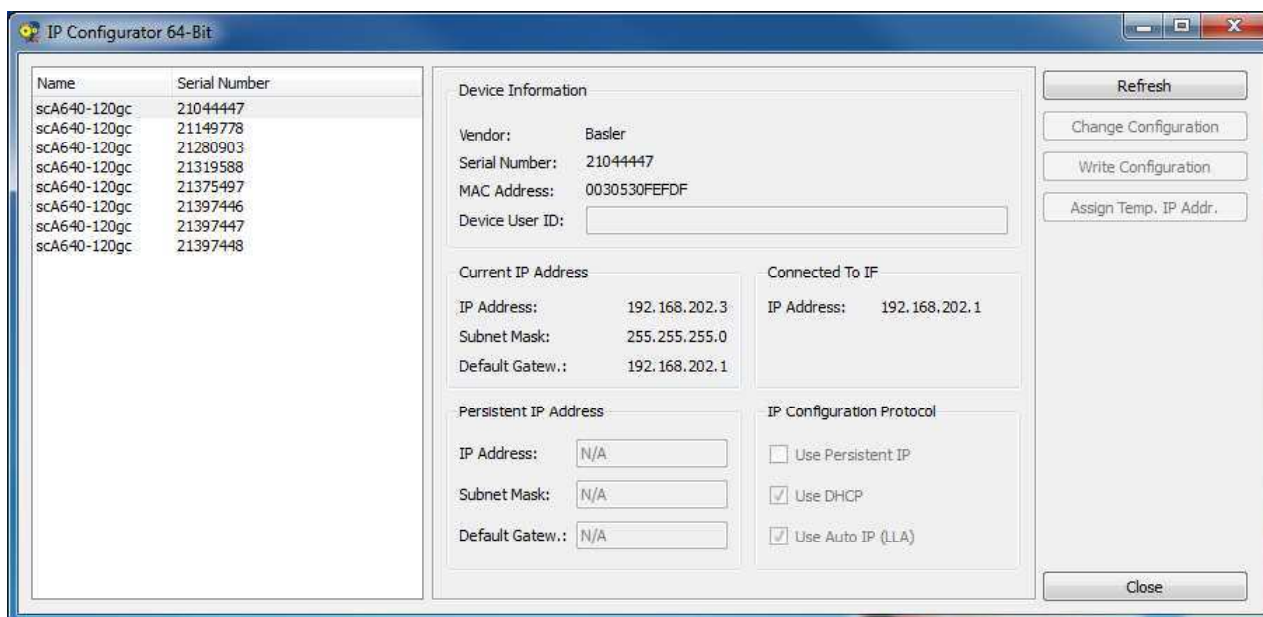

Figure 17.6: Recognition of 8 Cameras in Pylon IP Configuration Tool
3. Using the Basler IP Configuration Tool check if all cameras are being recognized or if any IP-conflicts are present (cf. fig. 17.6).